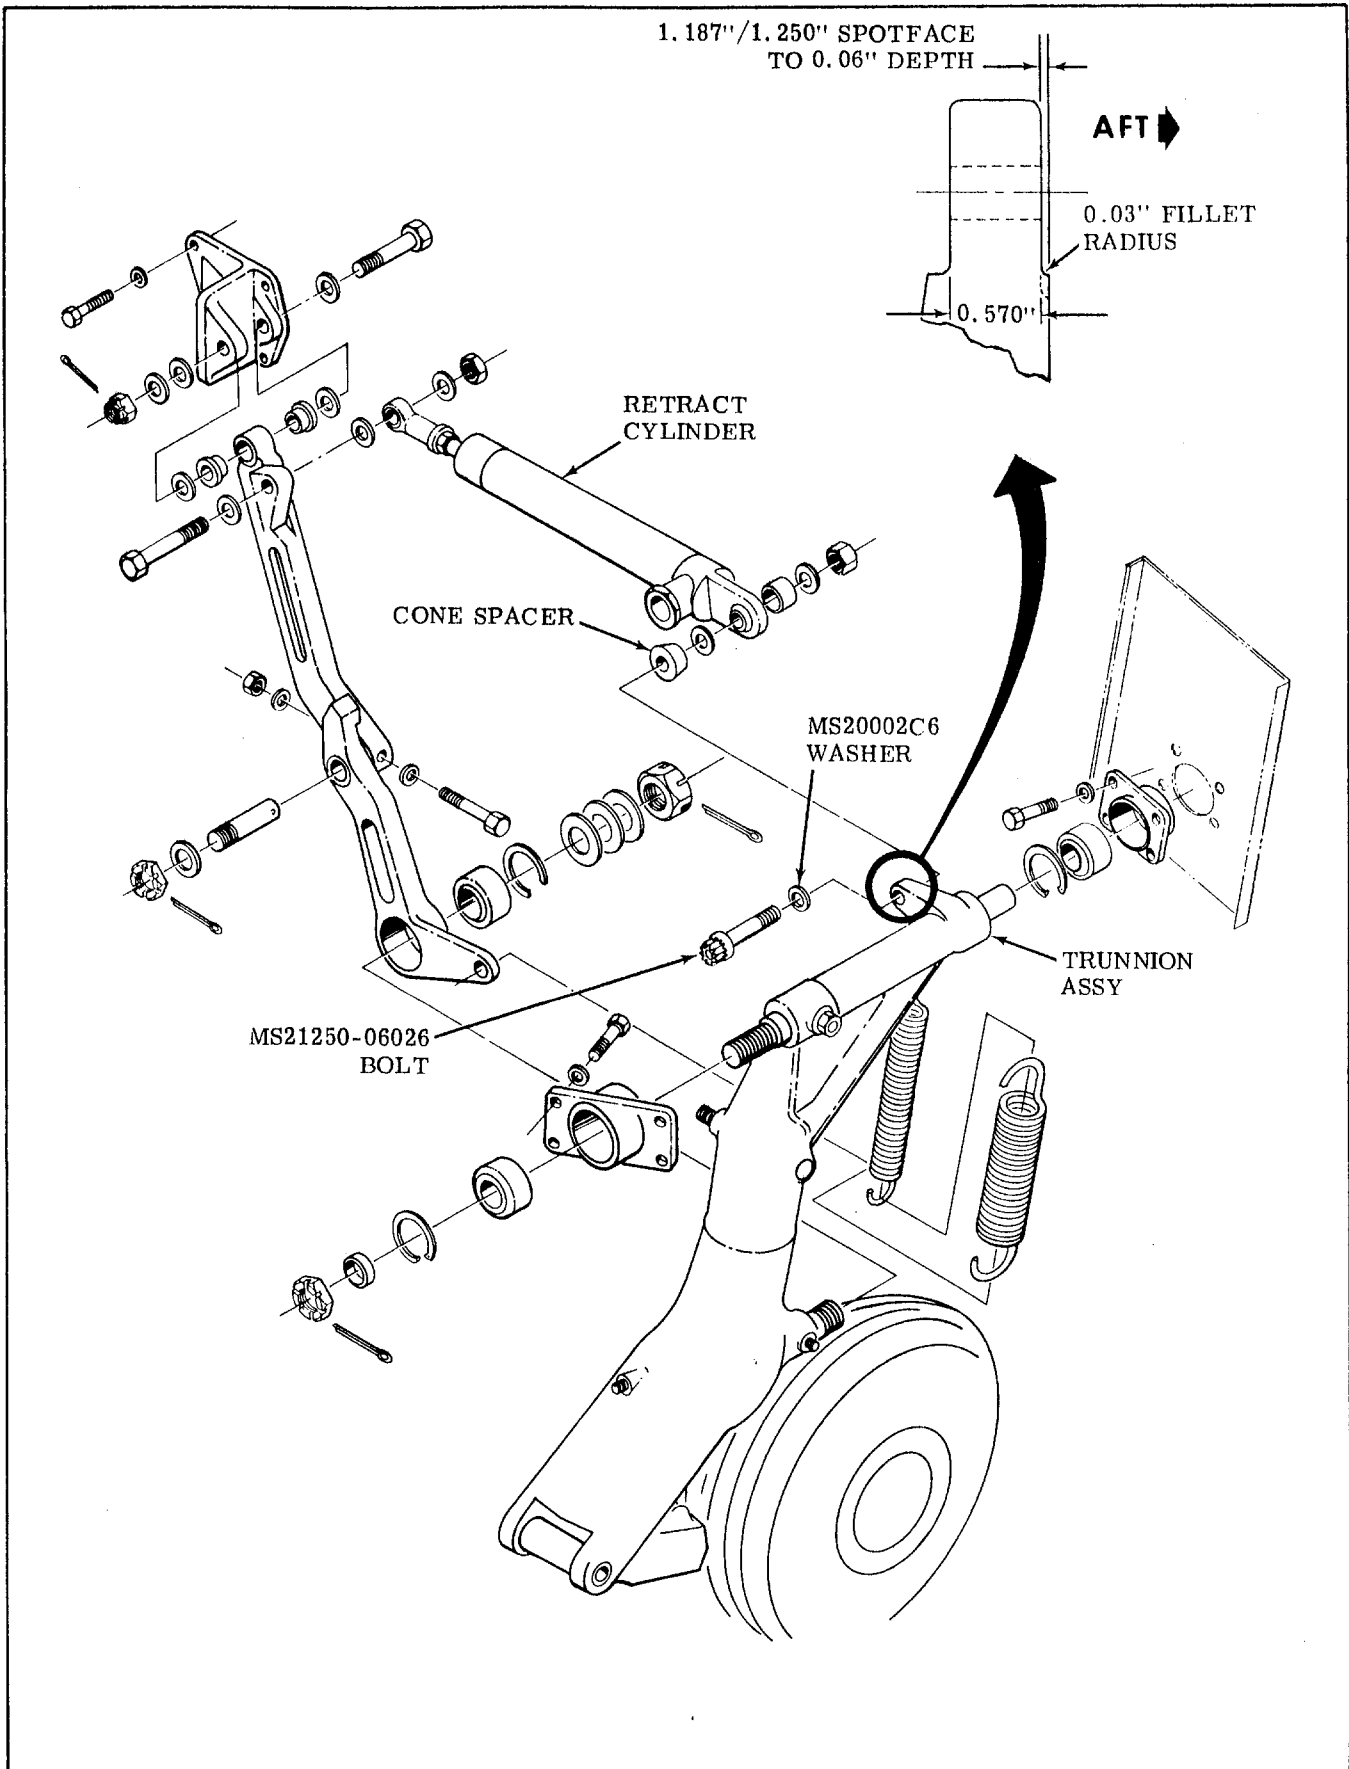

Figure 1.
3. Spotface lug on left and right main landing gear trunnions to dimensions shown in Figure 1.
4. Attach retract cylinder to lug on trunnion using MS21250-06026 bolt and MS20002C6 washer (under bolt head) (see Figure 1.).
2. Remove and discard existing bolt and washer (under bolt head) that attaches outboard end of main landing gear retract cylinder to lug on main landing gear trunnion and install MS21250-06026 bolt and MS20002C6 washer (under bolt head) (see Figure 1.).